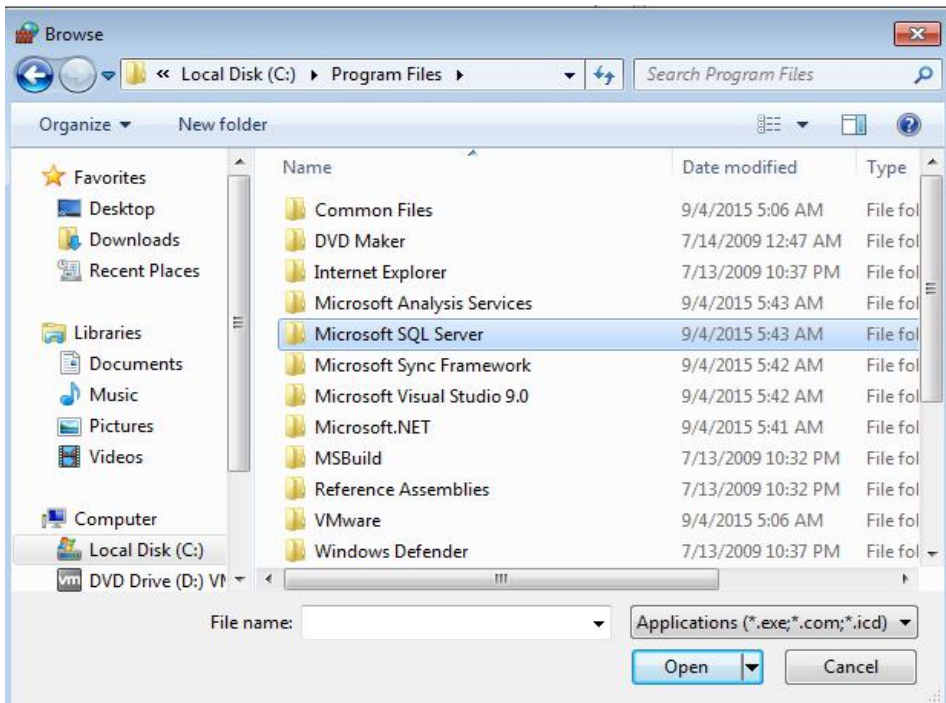

Fig.1.20 Program Files
(8) Open "MSSQL10.MSSQLSERVER" folder (see Fig.1.20). Then open "MSSQL" folder